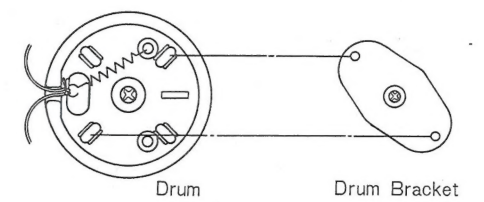

Fig. 5
6. Insert the drum to drum bracket as illustrated in fig. 5.